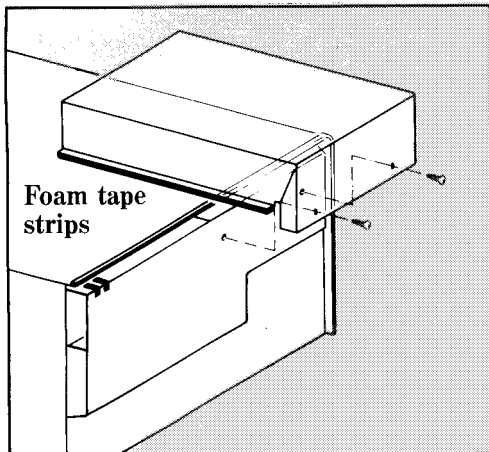

Fig. 7
2. Fit the foam rubber strips onto the lips on the under-side of the steam ventilation cowling (Fig. 7). Then position this on the microwave to ensure the two holes in the cowling align with the corresponding holes in the back panel of the microwave. Secure with the